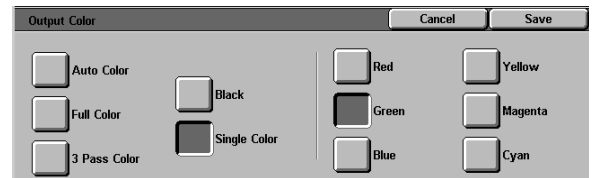

Figure 8: Output Color Screen with Single Color Options
- 1 On the Basic Copying tab, touch the Output Color **More...** option to display the Output Color screen, as in Figure 8.